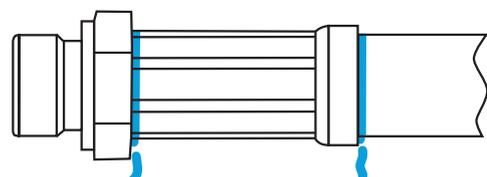

Figure 1: Leakage classification according to ISO/TR 11340: 1994 (E)
**Background:** For example, watertightness can be expressed phenomenologically, or in other words, descriptively. ISO/TR 11340:1994-07, Rubber and rubber products - Hydraulic hose assemblies - External leakage classification for hydraulic systems describes the leakage of fluids and classifies it in five different classes (see figure 1). This allows a worker to make an evaluation; however, it does not provide us with quantification.